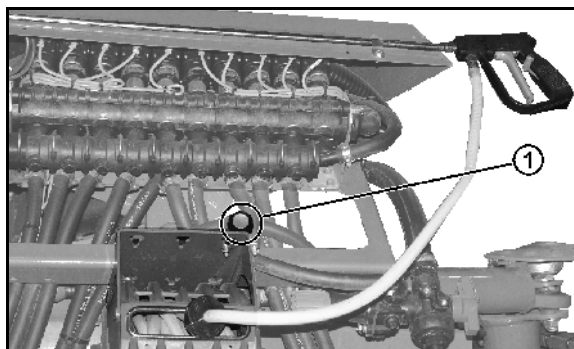

Fig. 117
- enables the constant circulation of liquid in the spray line. For these purposes, a suction port hose (Fig. 117/1) is assigned to each part width section.
- one suction port hose (Fig. 117/1) per part width section.